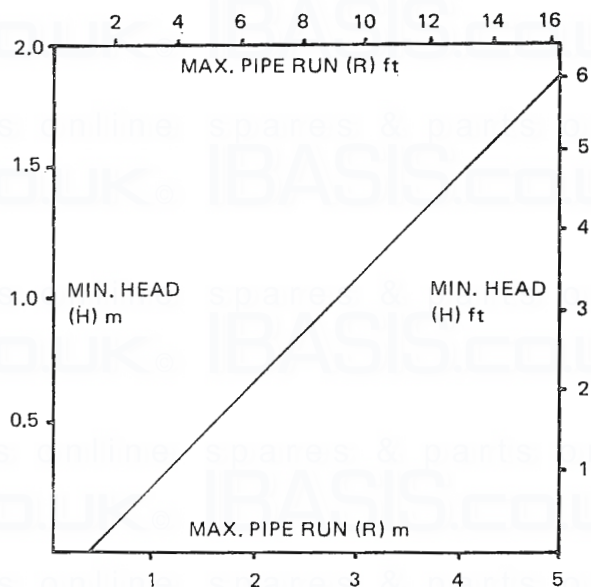

Fig. 4
The schematic pipework graph in Fig. 4 has been calculated on the assumption that not more than seven elbows are used in the gravity loop, including entry to the boiler. For each extra elbow, in excess of seven, (R) must be reduced by 300mm (12in), or (H) increased by 100mm (4in).
The pipe runs for gravity circulation should be planned with reference to the diagram, and graph, illustrated by Fig. 4.